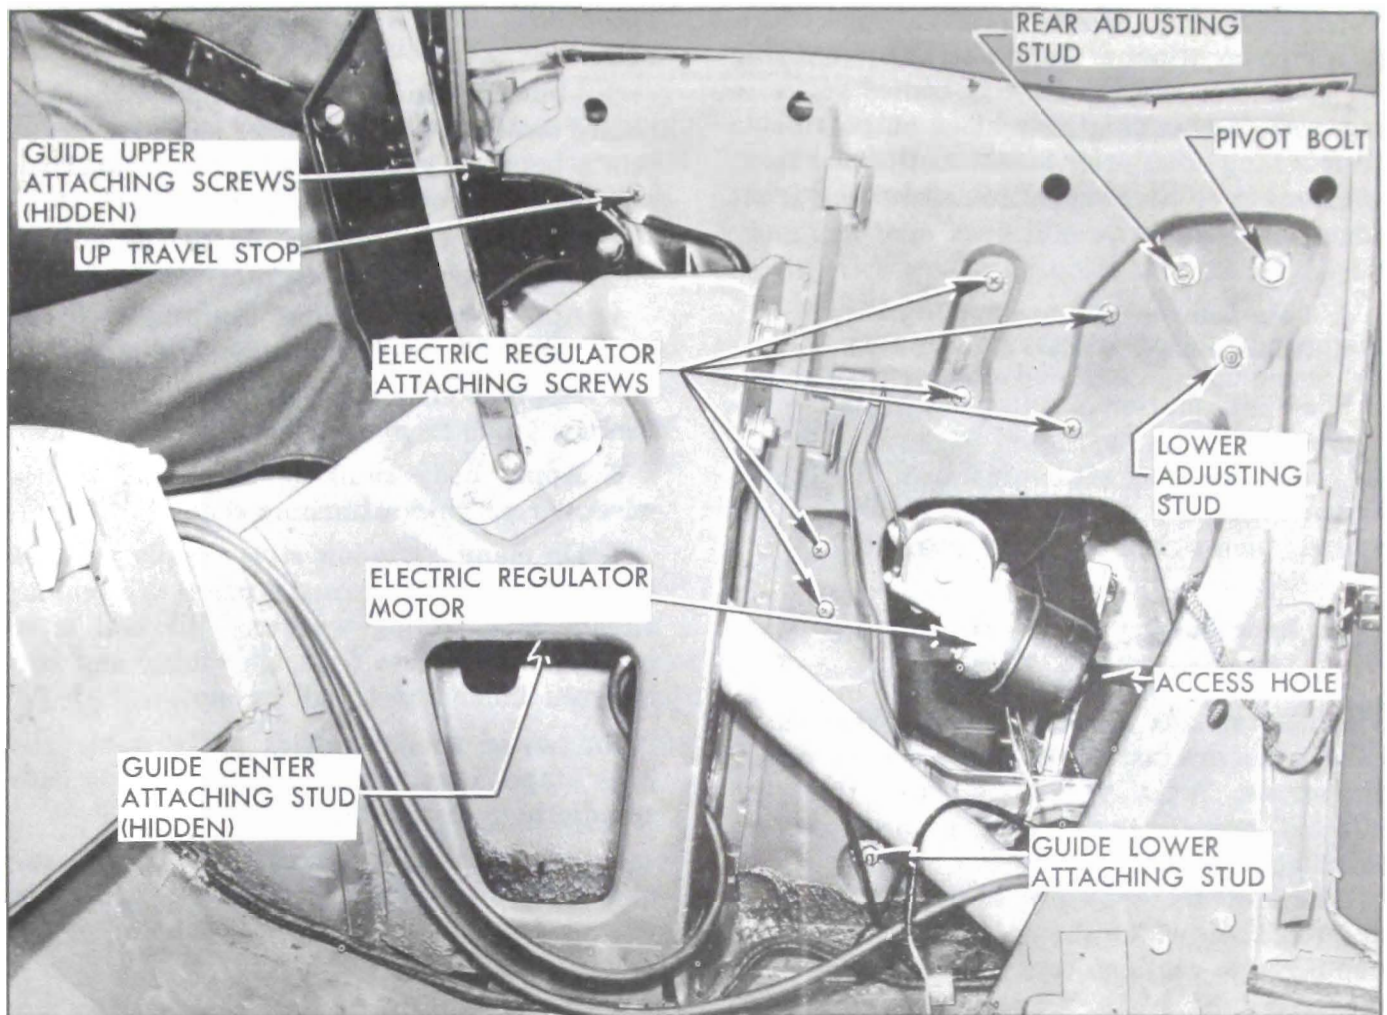

Figure 13-231—Rear Quarter Window Installation
CAUTION: *Do not operate regulator motor after window is disengaged from regulator. Operation of motor with load removed may damage unit. Figure 13-231.*
In connection with preceding adjustments, it may be necessary to adjust rear quarter window guide. To adjust guide: loosen guide upper, center and/or lower attachments; adjust guide to desired location and tighten guide attachments. Figure 13-231.
4. To install, reverse removal procedure. Figure 13-231.
3. To install, reverse removal procedure. Figure 13-231.